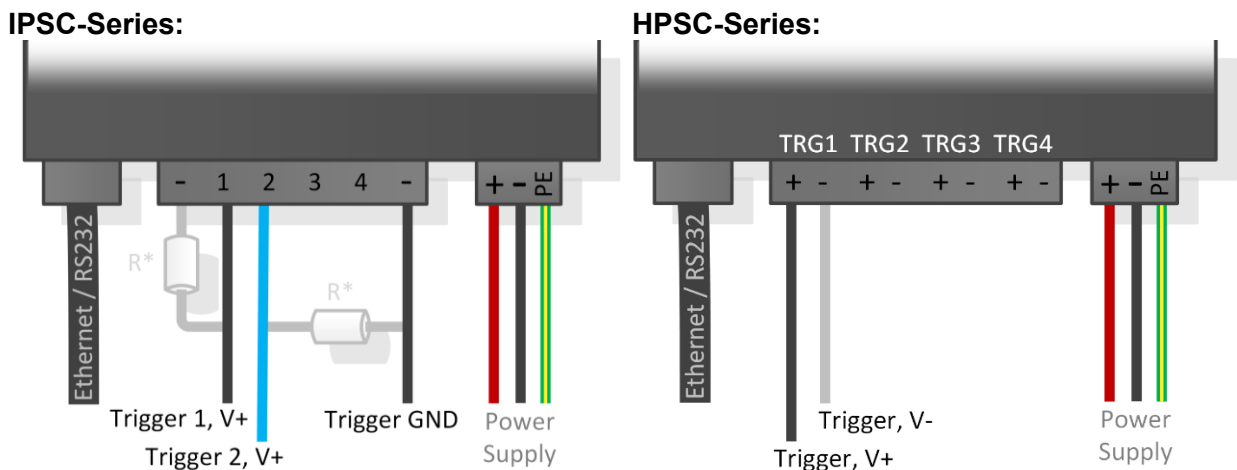

Figure 22: Connecting input trigger of IPSC (left) and HPSC (right) - max. 24V
*IPSC-Series: For trigger source that switches between Hi and Hi-Z state only, it is necessary to apply a pull-down resistor ($R = 1,2k\Omega / 0,5W$) between trigger source and GND, as shown in *Figure 22* (left).
Search by IP is designed to find controllers that are connected to the outside of your home network (via a router), where broadcast packages would not reach the device. Range of IP search is 16 addresses and takes approximately 1 second per IP address. If your input exceeds this range (as shown in Figure 22), 16 addresses will be searched starting with the address in the left box.